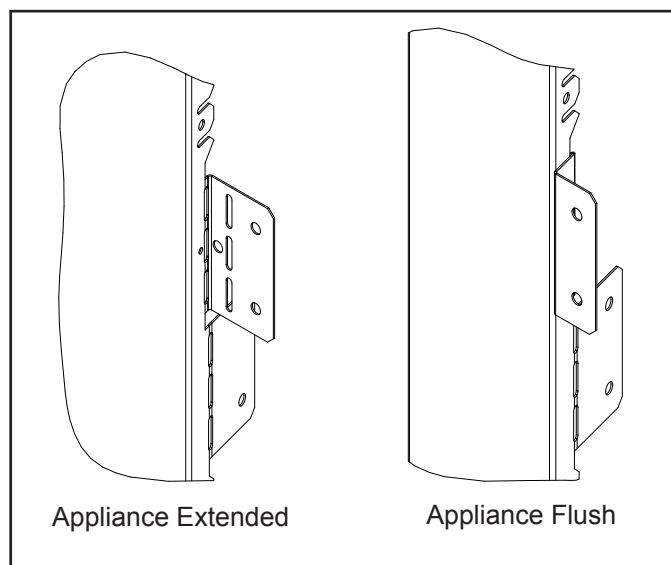

Figure 4.2 Nailing Tab Orientation
**Note:** Nailing tabs are design and positioned to allow the face of the appliance to either be installed flush with the framing materials or extend approximately 1/2 inch beyond framing materials. This allows the face of the appliance to be covered with non-combustible finishing materials, or combustible sheathing to be brought up to the sides of the appliance. See Figure 4.2.